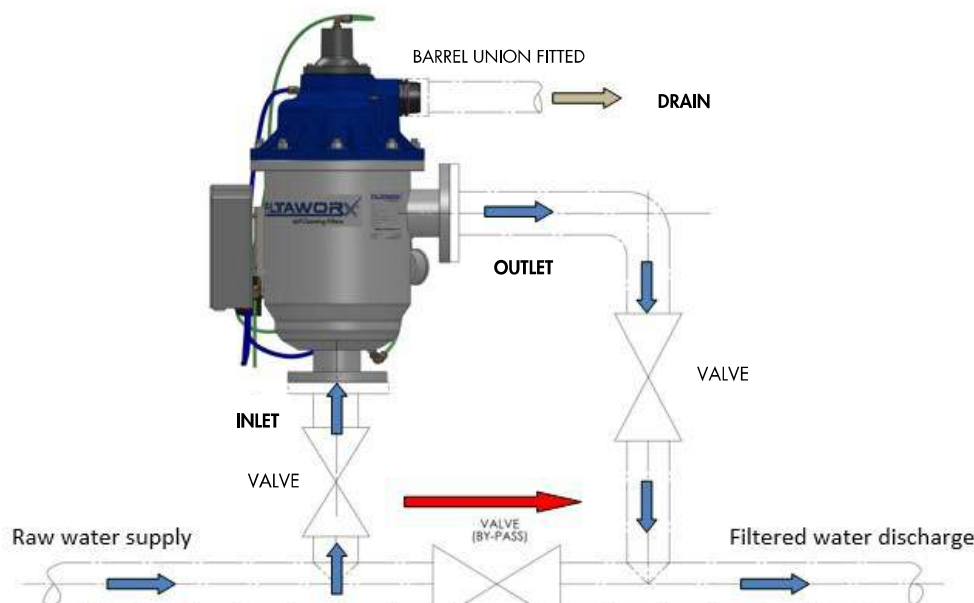

Figure 6 Filter Installation
7. Please see Figure 6 below for a typical installation, the filter can be installed in any orientation and the cover lid can be rotated to suit drain exit. Please note the critical items below: